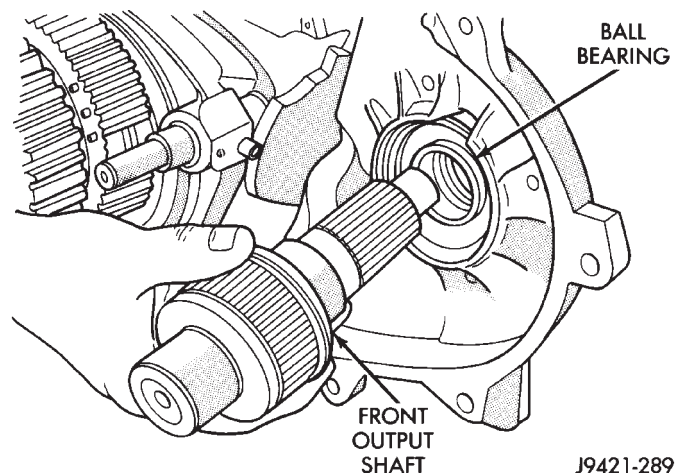

Fig. 34 Front Output Shaft Removal
- (5) Remove front output shaft from bearing in case (Fig. 34).